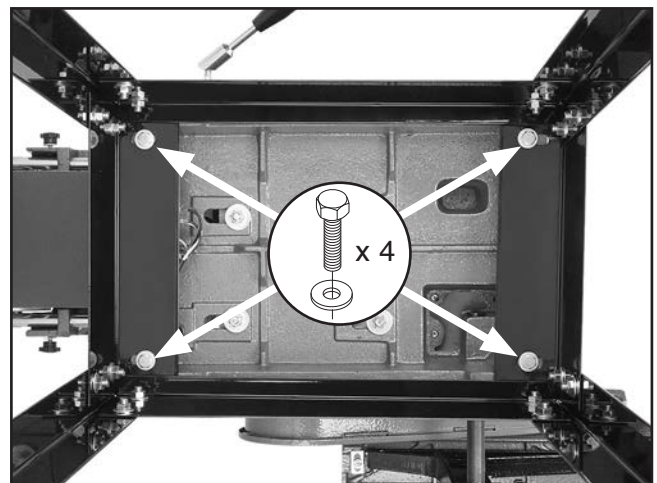

Figure 25. G1014Z sander fastened to stand (view from underneath stand).
17. Secure the sanding unit to the stand or cabinet with (4) $\frac{5}{16}$ "-18 x $\frac{1}{2}$ " hex bolts and $\frac{5}{16}$ " flat washers, as shown in **Figures 25–26**.